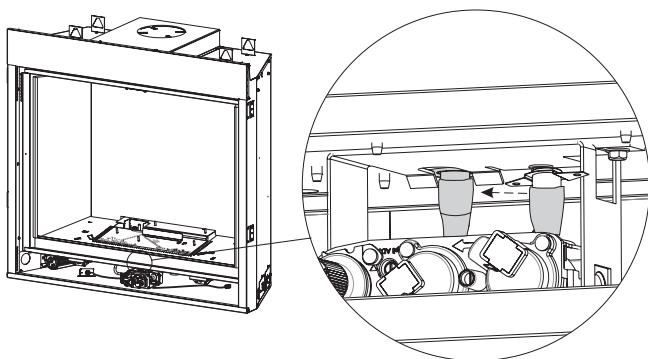

Figure 3
- Install thermo disc by snapping into valve bracket burner assembly. **See Figure 3.**